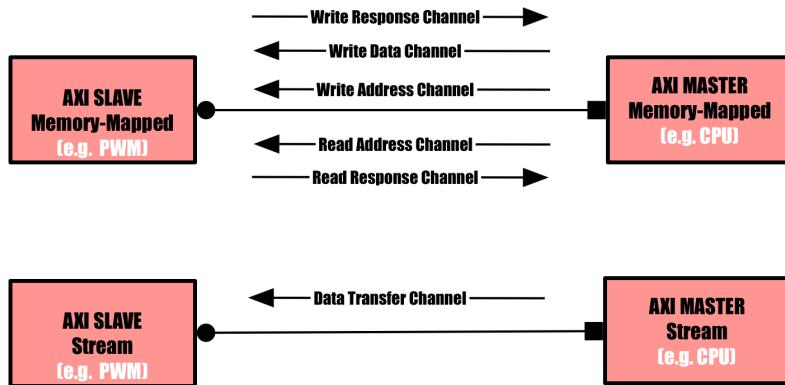

Figure 2: AXI Memory Mapped and AXI Stream arhitecture
As we have talked about customization per application, you can use two types of advanced eXtensible interfaces (AXIs): AXI Stream and AXI Memory Mapped (MM). Basically, a simple application such as computation of some stream of data can make use of AXI Stream, while a more complex one (e.g. writing on a memory) might need access to addresses (so AXI MM comes in place). Their diagrams can be seen in Figure 2. In our case, we will use an AXI Memory Mapped architecture, and PWM (Pulse Width Modulation) slave module to control LEDs and a buzzer.
and contains an instantiation of the *PWM\_v1\_0\_S00\_AXI.vhd* where the logic is implemented. If you open *PWM\_v1\_0\_S00\_AXI.vhd*, you will see the registers specific to the AXI-Memory Map architecture (Figure 2). In addition, the user can add its own logic and signals. Thus, you can see the implementation of PWM outlined by the following comments: